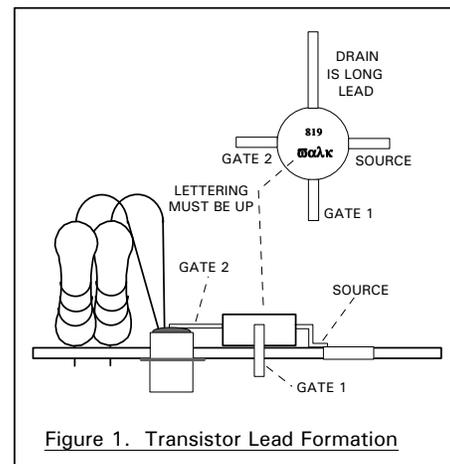
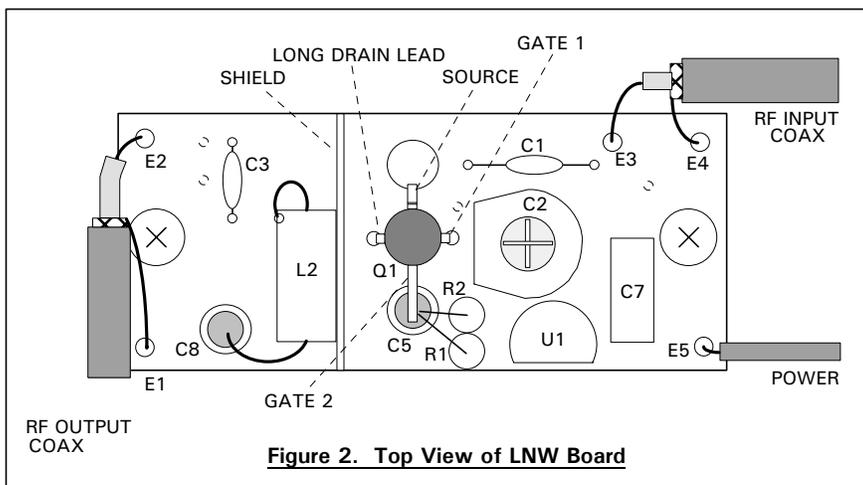

Figure 1. Transistor Lead Formation
Figure 2. Top View of LNW Board
b. Install feedthrough capacitors C5 and C8 as shown in figures 1 & 3. Insert them from the **BOTTOM** of the board with the tapered part toward the board. Hold the soldering iron at the base of the capacitor until the solder on the capacitor melts. Once the solder melts at one point, it is easy to get all the solder to be molten at one time by run-
c. Figure 2 shows the placement of Q1 on the board. The drain is the long lead. Figure 1 shows how to form the leads.
Pick up the transistor and orient it as shown in figure 2 *with lettering up*. Make sure you know which lead is which. Gently bend the source, gate 1, and drain leads down at a 90° angle as shown in figure 1. Then, bend the bottom of the source lead out away from the transistor to form an "L" shaped foot. When formed properly, the transistor will sit flush with the board as shown. (The gate 2 lead is not bent.)
Insert the drain and gate 1 leads through the holes in the board. The foot formed in the source lead should rest on the top of the board as shown in figures 1 and 2. Tack solder the foot of the source lead to the board. Check that the transistor is down against the board as
shown in figure 1. Check again that the transistor is oriented properly with the lettering up and the long lead in the hole for the drain. Then, solder the gate 1 and drain leads to their pads under the board. Trim off end of drain lead below board.
d. Install vertical resistors R1 and R2 in the holes shown in figure 2. Solder their bottom leads. Then, refer to figure 1 and bend the top leads over, inserting them into the center of ft capacitor C5. Trim these leads off at the bottom. Bend the fet gate 2 lead over to touch the top of the ft capacitor, and then solder all three leads to the metalization in the center of the capacitor. It is not necessary to completely fill the capacitor with solder as long as the three leads are all soldered at the top.
e. Solder metal shield to ground plane on top of pc board in position shown in figure 2. Keep the shield as close as possible to the transistor to leave room for output coil L2. First, tack solder the shield to the board at each end.
Connect the input and output terminals in the receive signal path with miniature coax, such as RG-174/u, as shown in figure 2. Be sure to keep the stripped pigtails as short as possible to maintain a 50Ω path. Connections are made by inserting the stripped ends of the pigtails into the pads on the board and soldering. Normally, the preamp is mounted in some sort of enclosure with UHF or similar connectors on the enclosure and miniature coax installed between the preamp and the large coax connectors. In some cases, the output of the preamp can go directly to the receiver with the miniature coax.